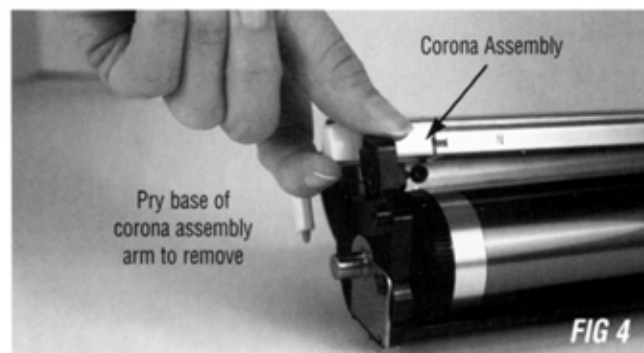

FIG 4
2. Gently pry the corona assembly from its installed position by the base of the corona assembly arm. Carefully lift the corona assembly from the cartridge. (Figure 4)